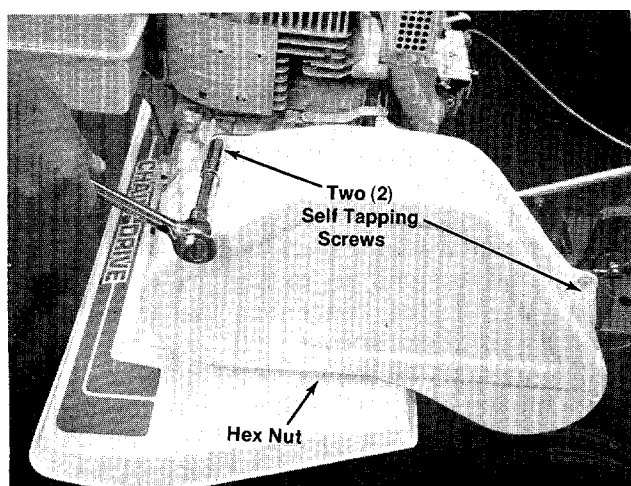

FIGURE 22.
1. Remove the belt cover by removing the two (2) self tapping screws, and one (1) hex nut. See figure 22.